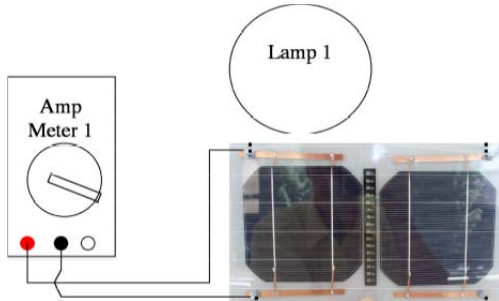

Fig. 2.1: Measuring the short circuit current
1. Connect the amp meter and **measure** and **record** the short circuit current for each cell (see Fig. 2.1). Do this for each cell separately.